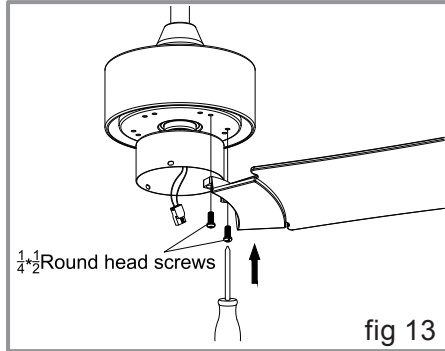

fig 13
- 2) Attach the blade bracket to the motor holes, then attach and tighten the screws. Repeat five times. (fig 13)